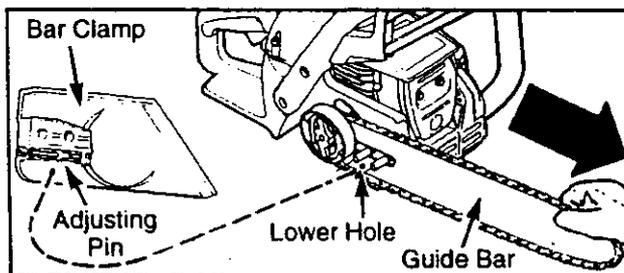

Figure 39
- Fit chain drive links into top of guide bar. Fig 39.